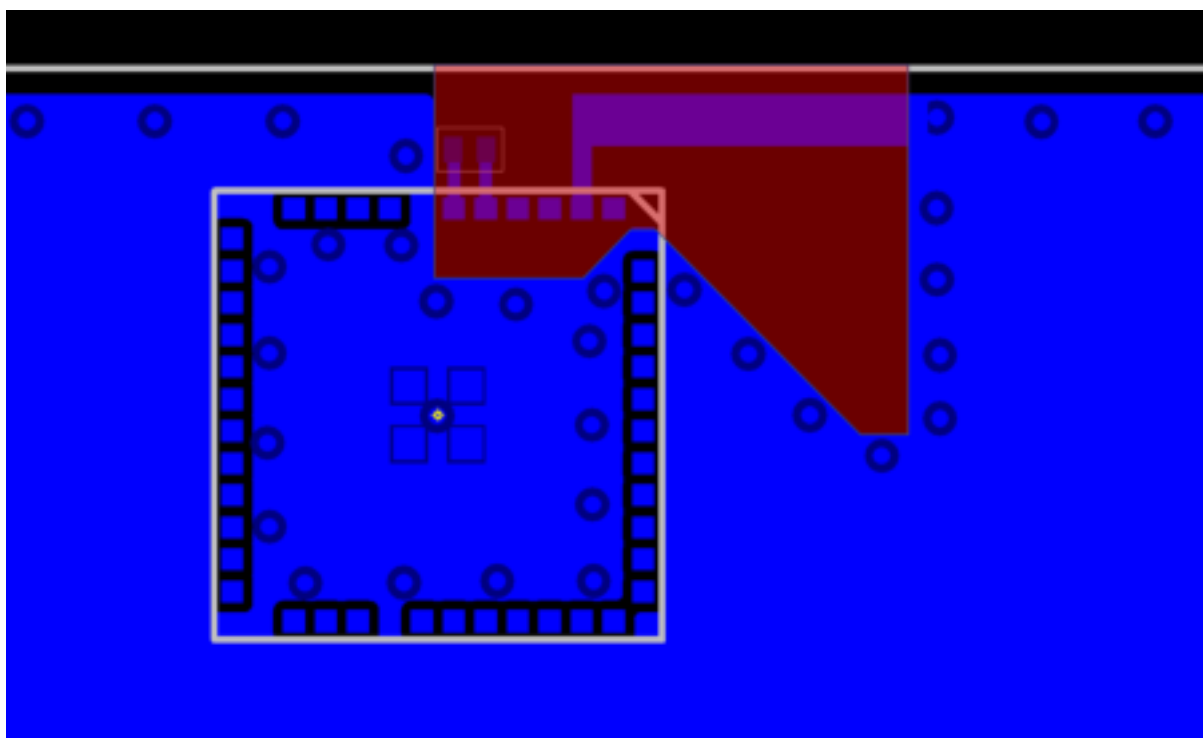

Figure 13: Antenna Clearance in Inner and Bottom Layers
- Make a cutout in all lower layers aligned with the right edge and the bottom edge of the integral loop antenna as indicated by the red box in Figure 13: Antenna Clearance in Inner and Bottom Layers.
- Generally, ground planes are recommended in all areas of the application board except in the antenna keep-out area shown in Figure 13: Antenna Clearance in Inner and Bottom Layers.